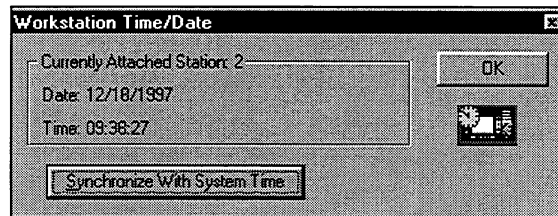

Figure 12-10. Workstation Time/Date Dialog Box
1. Select the Time/Date command on the Target Workstation menu to open the Workstation Time/Date dialog box, as shown in Figure 12-10.